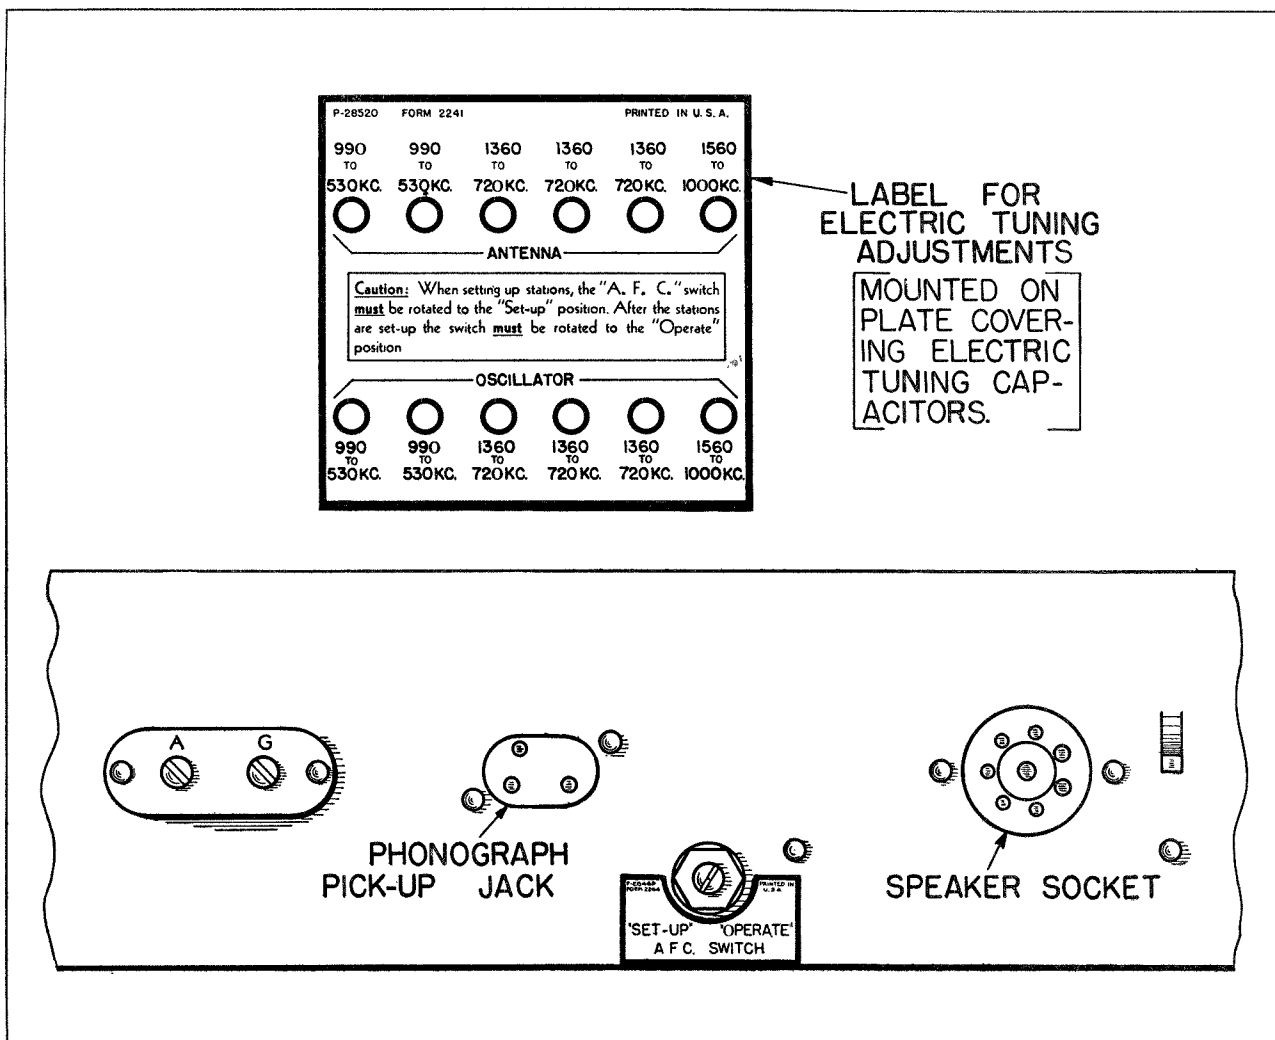

Fig. 5.
CAUTION: Never attempt to align the R. F. or I. F. circuits of this receiver with the Fidelity control knob set at any position other than the "Normal" position and the "Manual-Electric" control knob set at the "Electric" position unless specifically directed in the following paragraphs. Also, do not make any aligning adjustments of the R. F., I. F., or "Discriminator" circuits with the A. F. C. switch (which is located on rear of the chassis base) set at the "set-up" position. See Fig. 5.
A socket having three contacts is provided on the rear of the chassis base of these receivers. See Fig. 5. To equip these receivers for phonograph operation, it will be necessary to purchase and install in the receiver a Stromberg-Carlson, P-27946 Switch Assembly. Part of this assembly has to be wired to the above mentioned three prong socket. Complete instructions on how to install and operate this switch are furnished with each switch.
CAUTION: Each button adjustment for electric tuning has assigned frequency limits. These limits are designated for each adjustment on the rear plate which covers the tuning adjustments and are visible when looking at the rear of the receiver. See Fig. 5. The six stations should be selected so that the frequency of each station will be within the frequency limits assigned to one of the buttons.
8. **IMPORTANT:** By the aid of a screwdriver, rotate the slotted shaft of the "A. F. C." switch, which is located on the rear of the chassis base, so that the slotted shaft points in the direction of the word, "Set-up" (maximum clockwise rotation). See Fig. 5.
10. Push the farthest left-hand button (looking at the front of the receiver) which should be the button for the station having the highest frequency provided the frequency of the station is within the designated frequency limits of the tuning adjustments for this button. See Fig. 5. Then, looking at the rear of the receiver, rotate the screw of the oscillator tuning adjustment which is designated 1560 to 1000 kilocycles to the position where the desired station is received. In order to check whether the program being received is from the desired station, simply rotate the "Manual-Electric" control to the "Manual" position, and with the receiver tuned in "Manually" to the desired station a quick check can be made; then rotate the "Manual-Electric" control knob back to the "Electric" position. **Exact resonance with the desired station should be obtained by observing the tuning indicator.** When this adjustment has properly been made, the screw of the antenna tuning adjustment designated 1560 to 1000 kilocycles should be rotated to the position where maximum indication is again obtained on the tuning indicator tube. When these adjustments have been properly made the station having the highest frequency is correctly set-up for Electric Tuning by means of the push button.